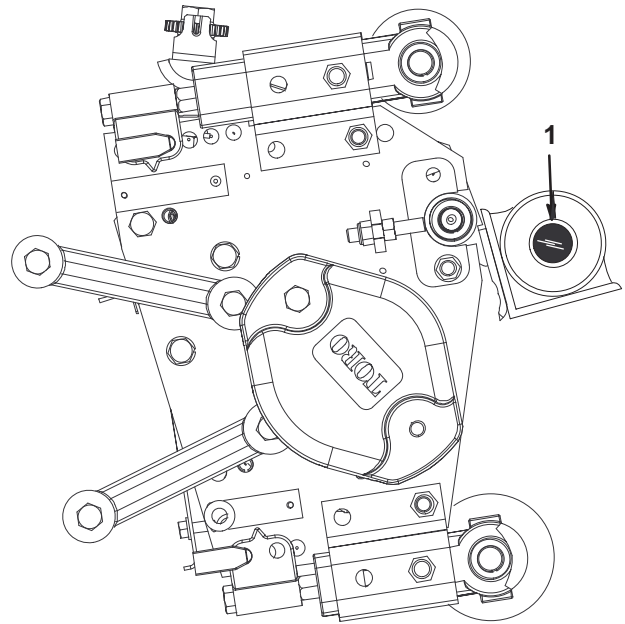

Figure 13
1. Place an angle indicator, Toro Part No. 99-3503, on the bedknife and record the bedknife angle (Fig. 13).